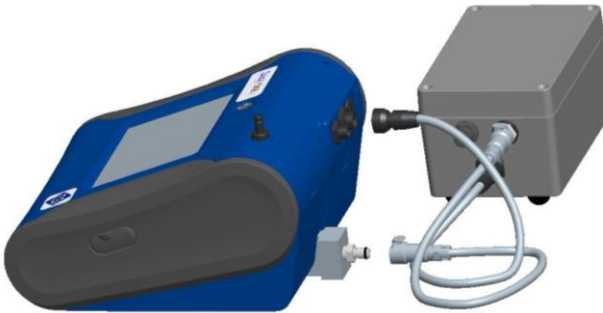

Figure 2-5: Connect Power Connector to DustTrak Monitor
5. Connect the other end of the power connector to the DustTrak monitor (see Figure 2-5).